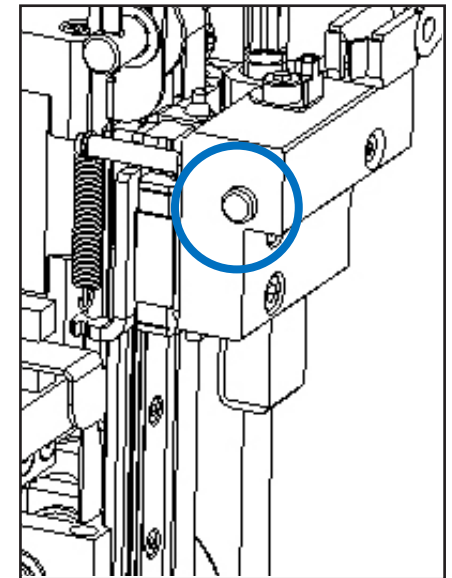

Figure 51: The pipetting probe carriage with the probe block release button
- if you are replacing the pipetting probe with its mounting block, press its release button on the pipetting head (see Figure 51) and push the block upwards to remove it
4 Unhook the top hook of the coil spring (seen in Figure 51) from the linear motion bearing.